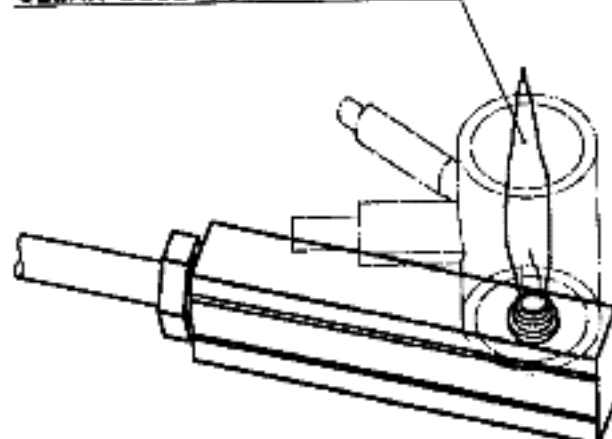

Fig. 8
Once or twice a year, look through the opening (M in fig. 5) in the burner box and examine the appearance of the burner flame which should be predominantly blue in color when the gas thermostat knob is set to "MAX" (refer to fig. 8).
5. Take out the "T-piece" at the top of the flue tube and unscrew the screw (B in fig. 8) that fixes the metal piece